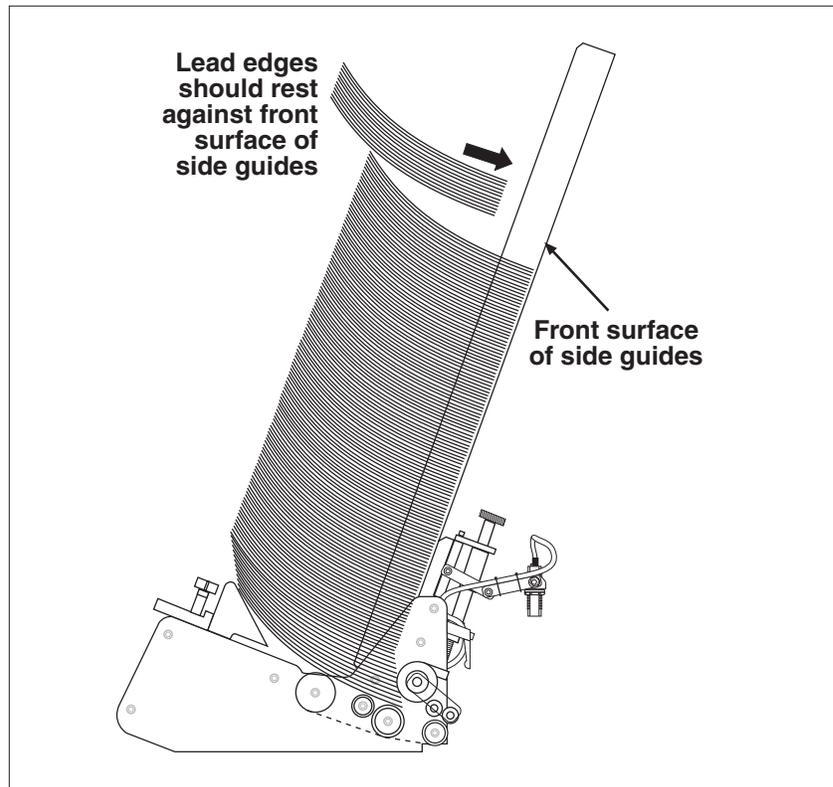

Figure 32. Adding More Material to Hopper
- Gradually add more material to the hopper after the initial stack is formed around the gate assembly. As stack height will have a preferred minimum and a maximum, you will have to experiment to determine the effective range of height (Figure 32).